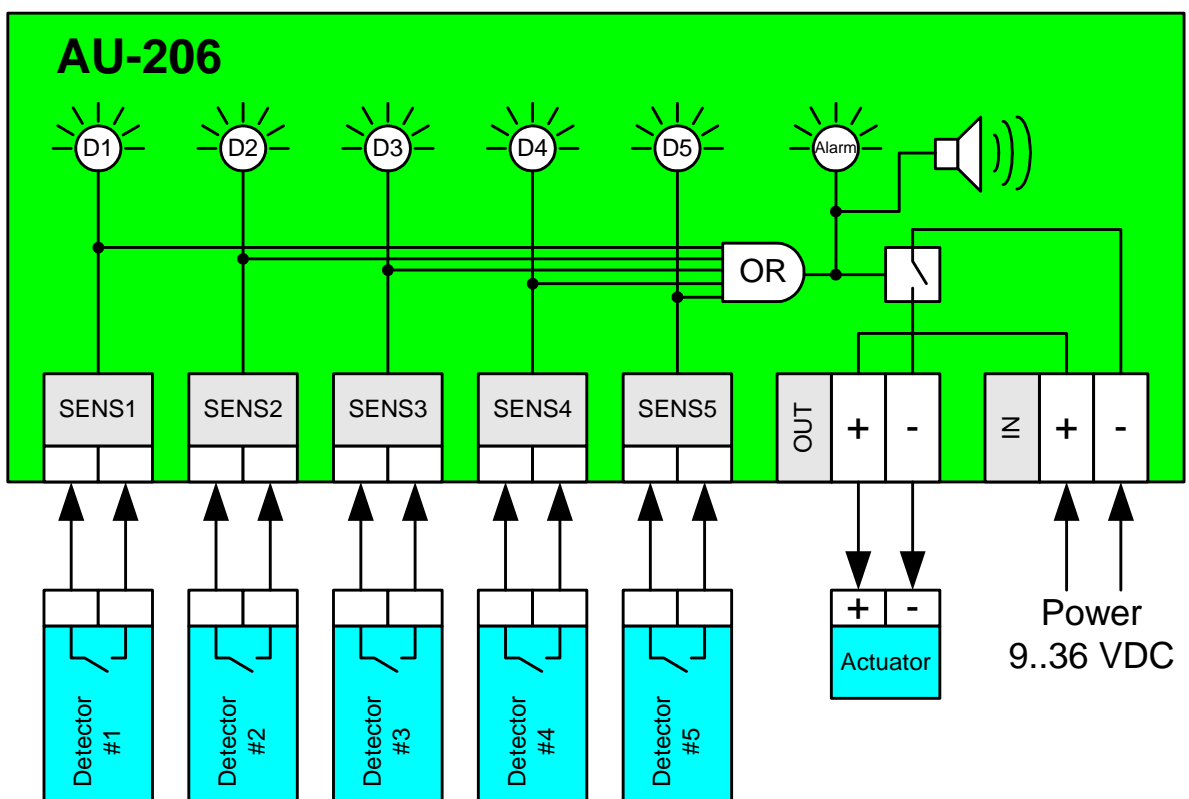

Fig. 1. Block-scheme of device.
5. Connecting wires of power supply units and connected devices connect with terminal blocks according to connection scheme (Fig.1) and fix them with cable coupling at special corbel.